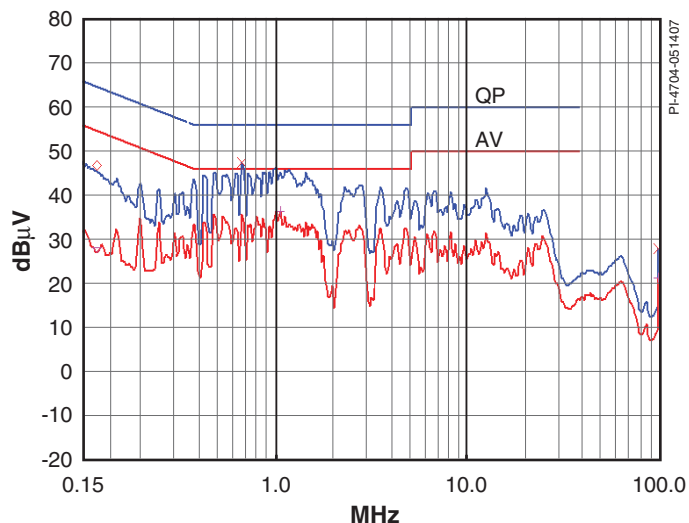

Figure 3. Conducted EMI at 230 VAC with Output Grounded (CISPR-22 / EN55022B Limit Lines Shown).
- Meets CISPR-22/EN55022B conducted EMI limits with 10 dB μ V margin (see Figure 3)